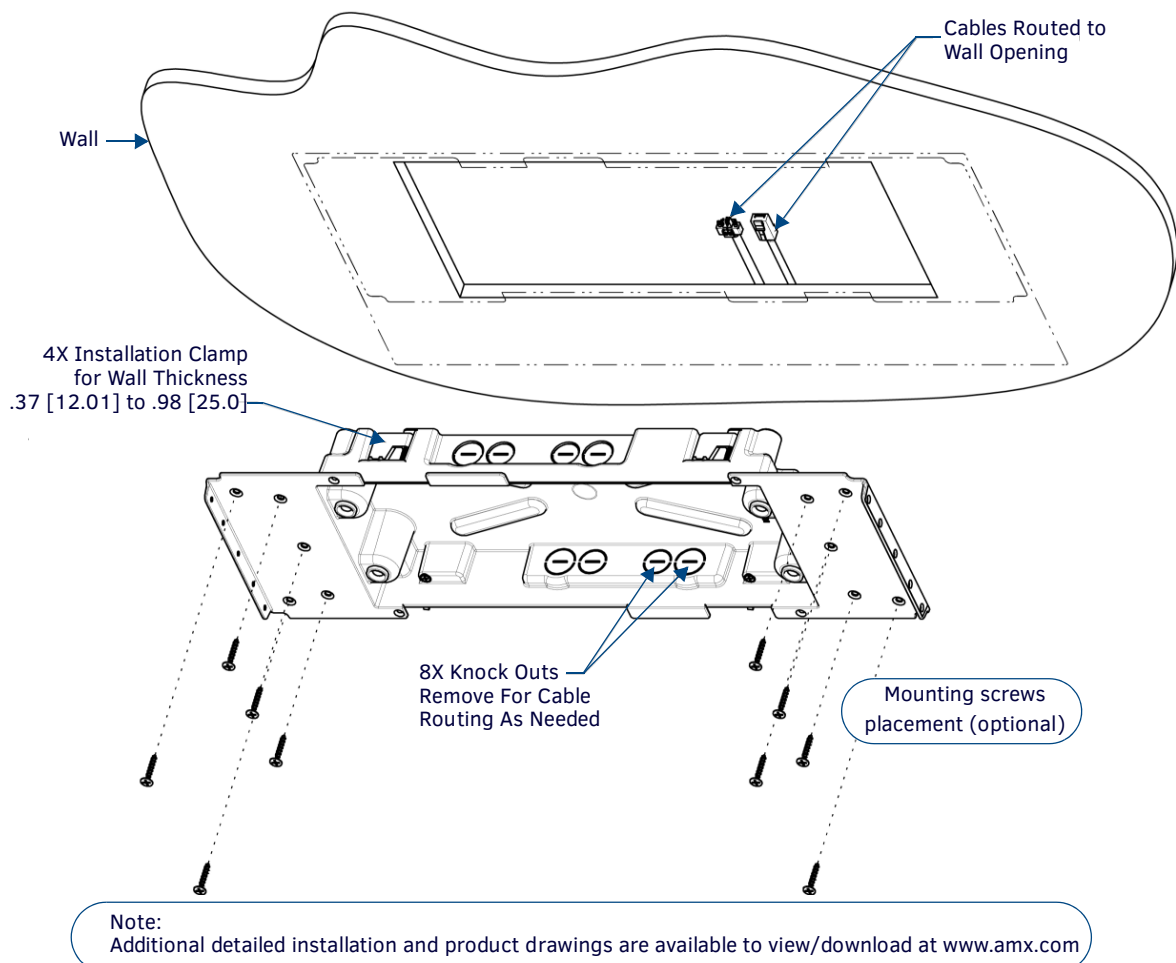

FIG. 30 MXD-1901-PAN Backbox installation (Landscape)
3. Thread the incoming power and Ethernet wiring from their terminal locations through the surface opening (FIG. 30).
Note that FIG. 30 shows the MXD-1901-PAN, but the illustration applies equally to the MXD-2001-PAN. Also note that FIG. 30 shows a landscape panel but the installation of a portrait panel is essentially the same, other than the vertical orientation. Leave enough slack in the wiring to accommodate any re-positioning of the panel.
- For additional strength, #4 mounting screws (not included) may be secured through circular holes located at the left and right sides of the MXD-2001-PAN (see FIG. 30). In order to prevent damage to the touch panel, make sure that these are flush with the Backbox.